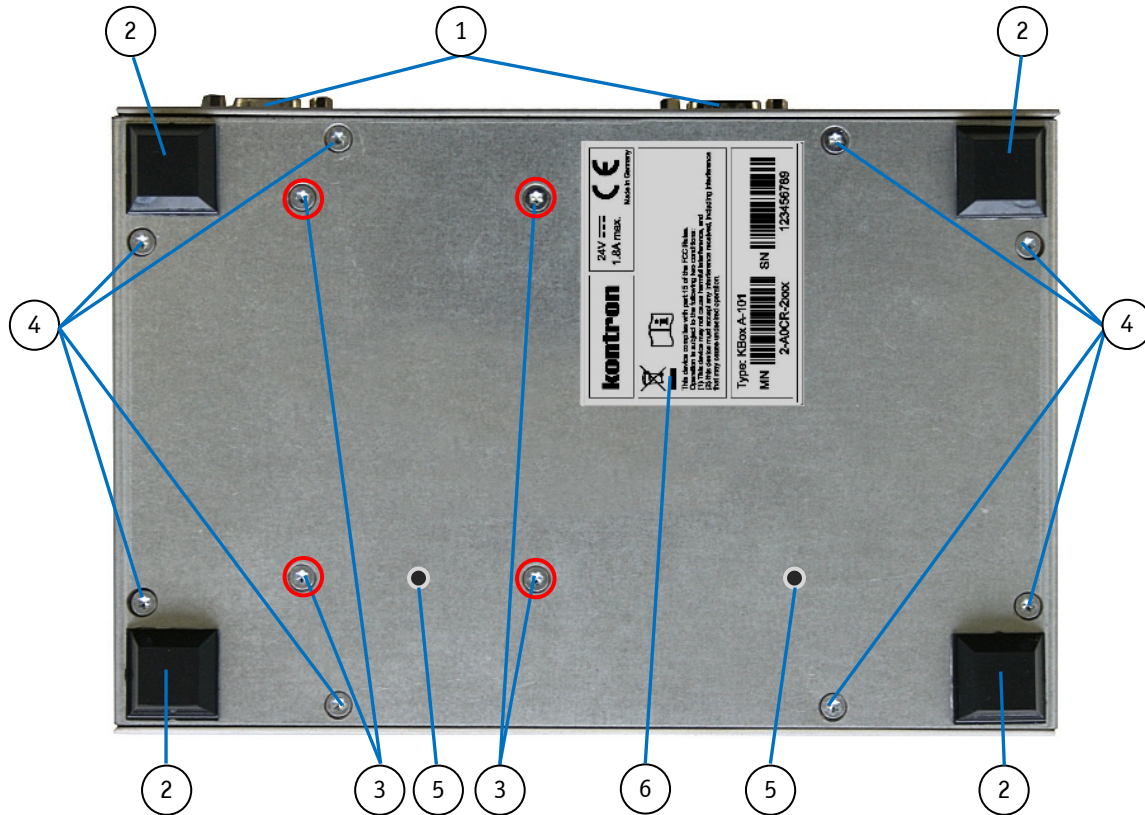

Fig. 19: Bottom side (shown as desktop version)
Do not loosen or remove the torx screws of the internal HDD/SSD drive (Fig. 19, pos. 3).
The type label is located on bottom side of the unit (refer to Fig. 19, pos. 6).